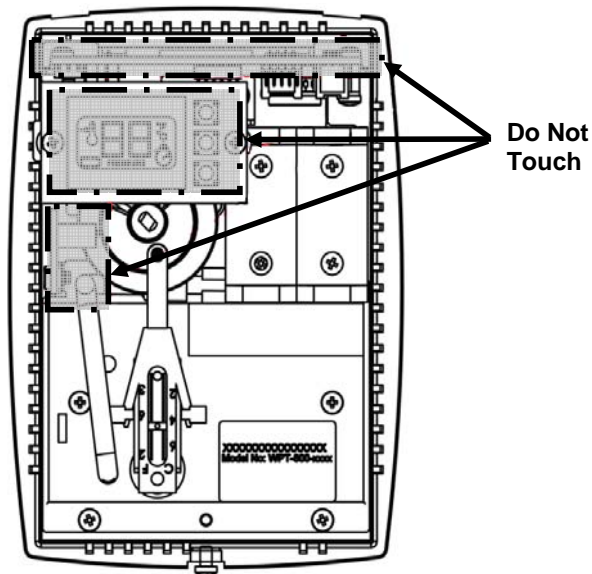

Figure 1. Handling the WPT-DB
- Hold and handle the unit as shown in Figure 1, using the external bottom plastic cover as the support.